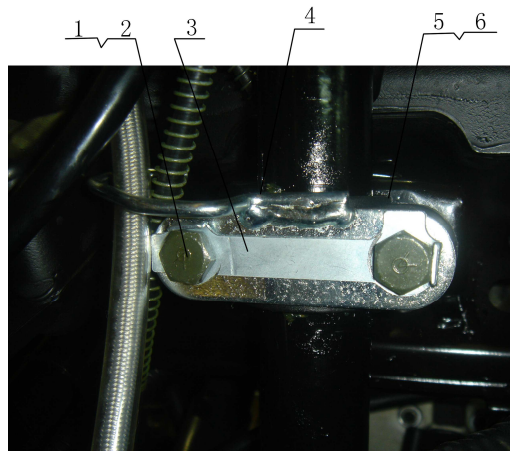

Figure 4-1-10
2. Fix the steering vertical column onto the frame with hexagon flange bolt M8\*60 (2pcs), supporting stent (1pcs), inner and outer supporting bracket (2pcs), stop reverse piece (1pcs) and collar pipes (2pcs). (Figure 4-1-10)